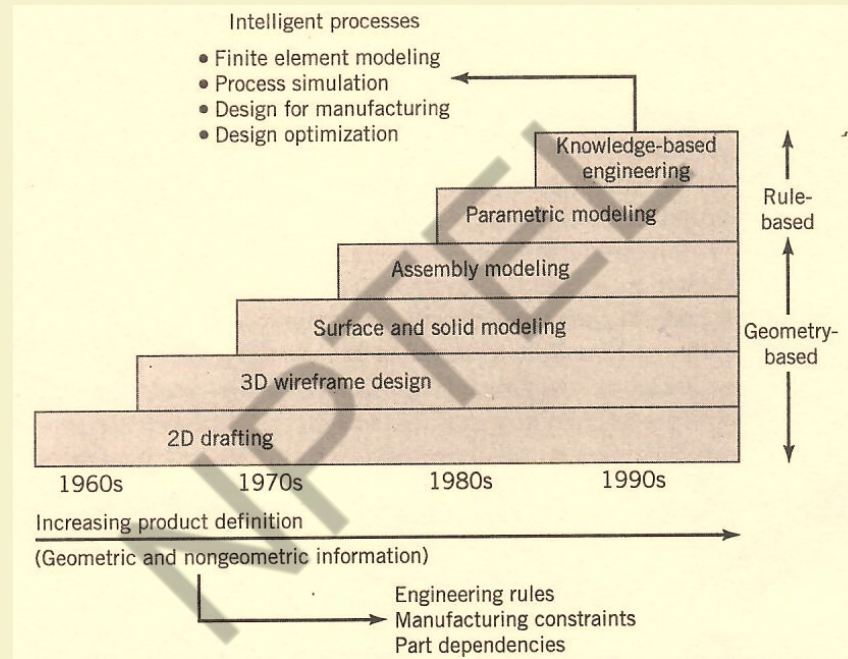

Fig 2. The Evolution of Mechanical CAD/CAM Systems
- First: CAD. The major focus in CAD technology development has been on advancing representation completeness. Figure 2 shows the evolution the evolution of CAD/CAM systems over the past three decades.